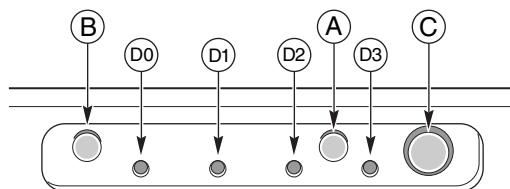

Figure 2 Front Panel Controls and Indicators
The following front controls and indicators are shown in Figure 2.
6. If the server does not turn on when you plug it into the AC outlet, press the power on/off button on the front panel. (See Figure 2 on page 6.)
7. Verify that the main power LED on the front panel is lit (see Figure 2 on page 6). After a few seconds, the power-on self test (POST) begins.